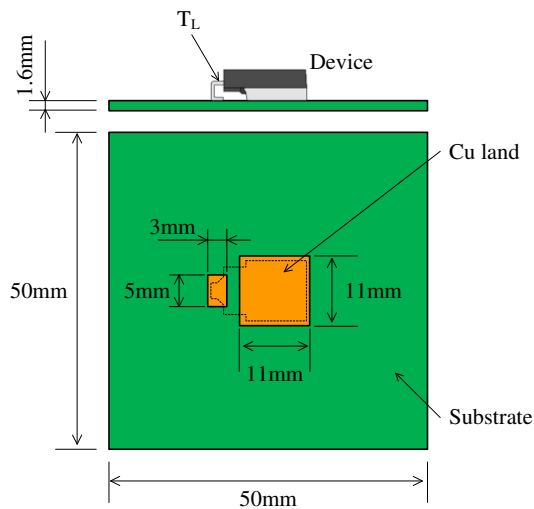

Figure 1-1 Lead temperature measurement condition
(2) Refer to Figure 1-1
(1)  $R_{th(j-c)}$  is thermal resistance between junction and lead. Lead temperature is measured as shown Figure 1-1.
\* Refer to Figure 1-1